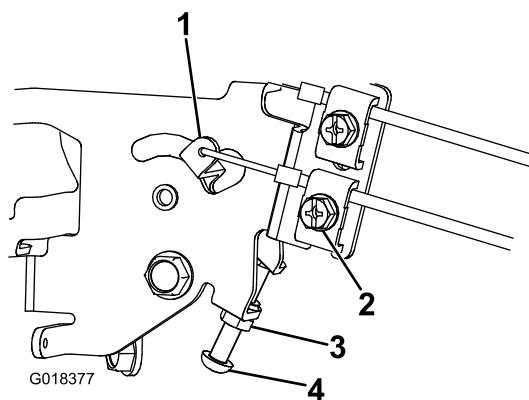

Figure 9
1. Loosen the locknut and unscrew the high idle screw a few turns. When setting the engine rpm on power units connected to models 02710 and 02711, replace the high idle screw with the high idle M5 x 50 screw supplied with 02710 and 02711 (Figure 9).
3. Turn the high idle screw so that the end of it just touches the speed control lever, and tighten the lock nut (Figure 9).